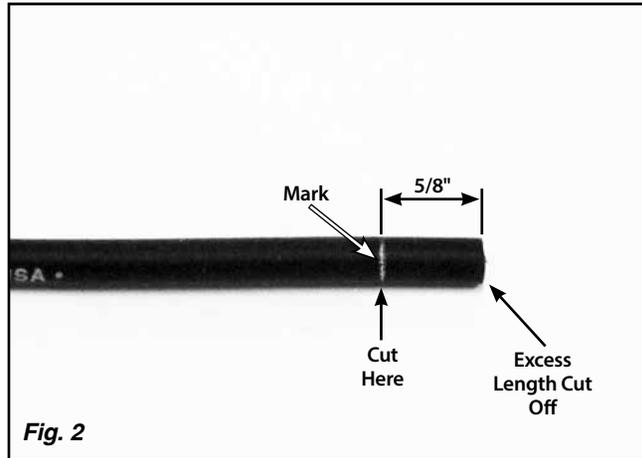

Fig. 2
Step 5: Measure and make a mark 5/8" from the end of the plug wire. **Fig. 2** Use a sharp utility knife to CAREFULLY cut through the black outer cover and approximately 1/16" into the insulation, all the way around the plug wire. MAKE SURE you do not cut the insulation deep enough to reach the conductor in the center of the plug wire!